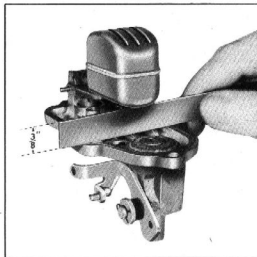

Fig. 8—Checking Float Level
underside of the bowl cover (with the gasket removed) to the top of the float. This measurement should be $\frac{3}{8}$ ". The gauge shown in Fig. 8 is a convenient tool for making this check.
9. With the cover turned upside down, check the float level by measuring from the cover to the float. This distance should be $\frac{3}{8}$ ". See Fig. 8. **CAUTION—When making float level adjustments, do not press on the float proper.** Check the low position of the float by measuring from the cover to the top of the float. This